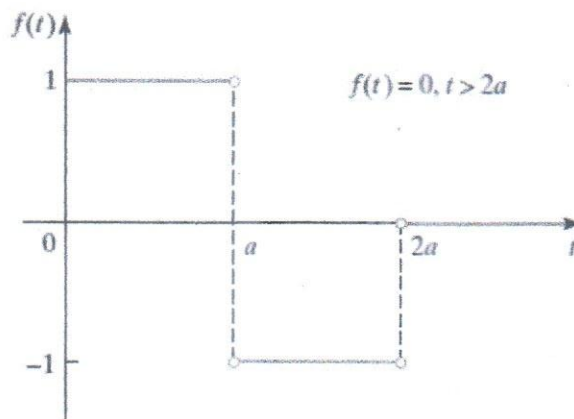

Figure 1: Function  $f(t)$
| c) State formula for Laplace transform of a periodic function. Hence find the Laplace transform of the function $f(t)$ shown in Figure 1:  | (5)        | CO1 | PO1 |